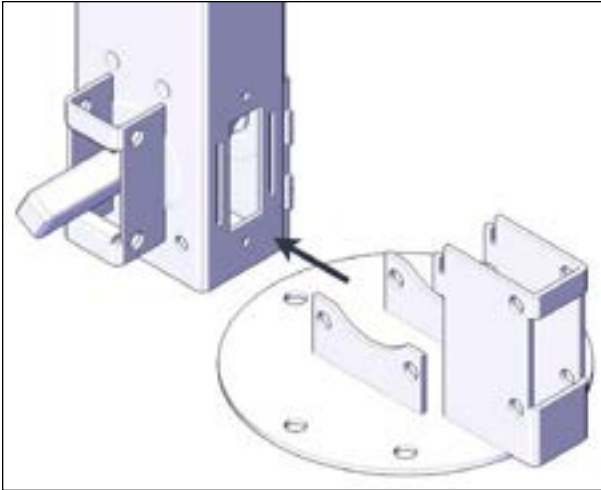
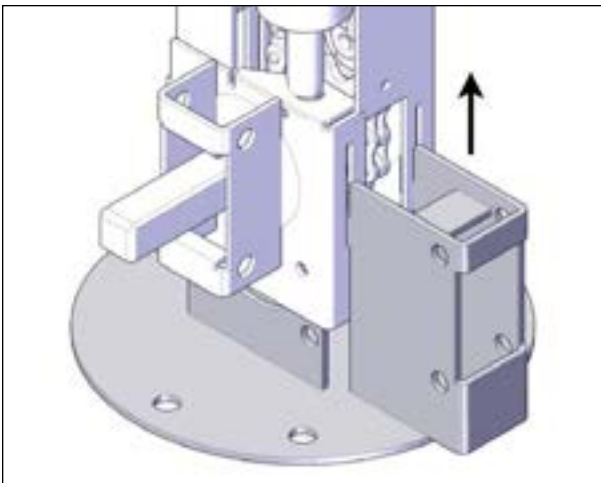

FIGURE 49: FOOT BRACKET INSTALLATION
FIGURE 50: INSERT LEGS IN SLOTS
2. Install a foot bracket to the non-motor side jack. Make sure to align the foot bracket on the right side of the U-frame shaft as shown see Figure 49.
- Slide the alignment vertical legs of the foot in the bottom alignment slots of the jack see Figure 49 and Figure 50.
- Push upwards to lock in place see Figure 50. Make sure to get a full contact with the bottom plate. Use a rubber mallet if necessary.